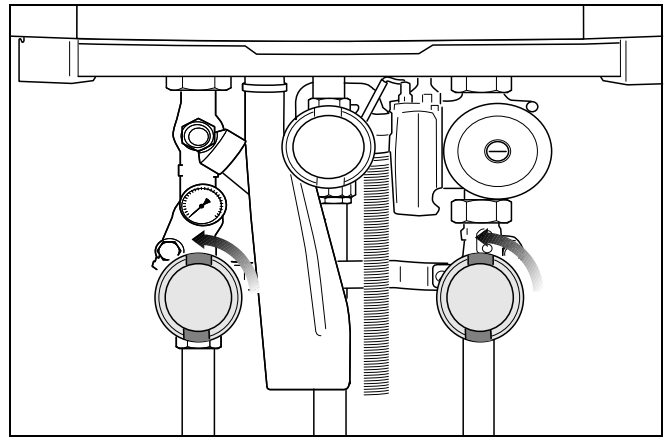

fig. 12 Opening the flow and return valves (here: open position)
- Open the heating flow and return valves on the pump group (fig. 12) (open position: parallel to the pipe).